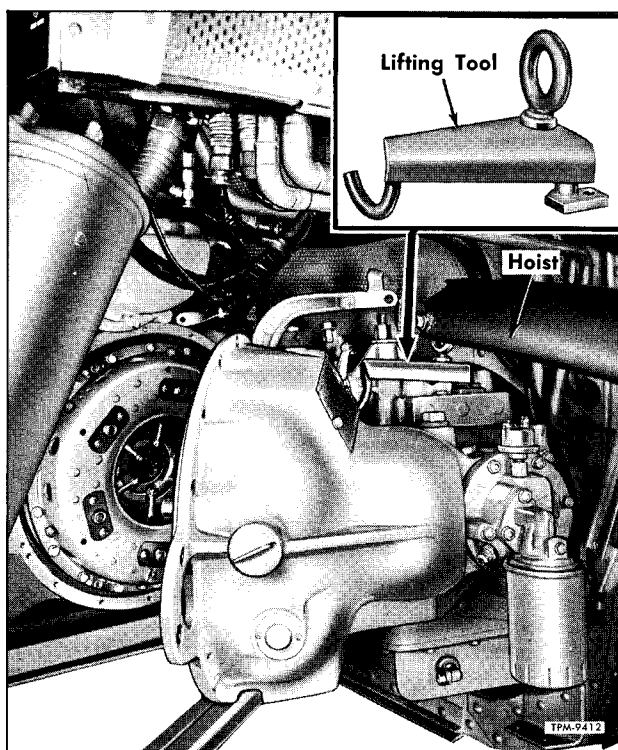

Figure 10—Replacing Transmission
8. Attach lifting tool (fig. 10) to transmission, and attach hoist to lifting eye. Remove clutch and flywheel housing bolts and washers (1), then lift transmission assembly and move straight away from engine until splines are disengaged. Turn the transmission as shown in figure 10 and remove from engine compartment.
INSTALLING TRANSMISSION (Fig. 10)
2. With clutch release parts assembled in clutch housing, lift transmission with hoist and lifting tool as shown in figure 10. Move transmission into engine compartment and guide splined shaft into position in line with clutch members, also enter clutch release rod through hole at upper end of release lever.